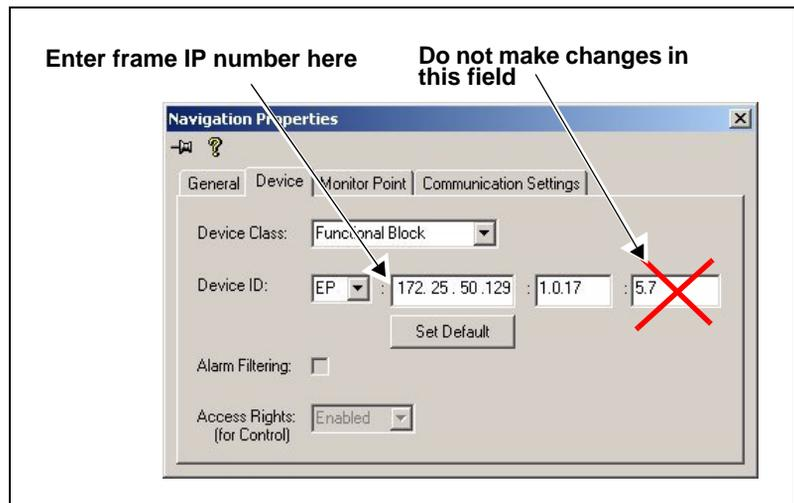

Figure 2-5. Navigation Properties Box
3. On the **Device** tab of the **Navigation Properties** box, enter the IP address of the frame that holds the module. (See Figure 2-5.)